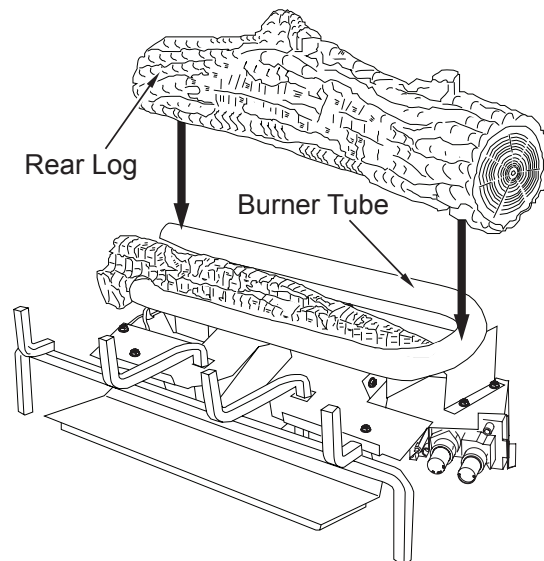

Figure 35 - Installing Rear Log
2. Place the rear log on the base assembly as shown in Figure 35. The rear log has grooves in the bottom which will allow the log to sit on the burner and behind the bottom ember log